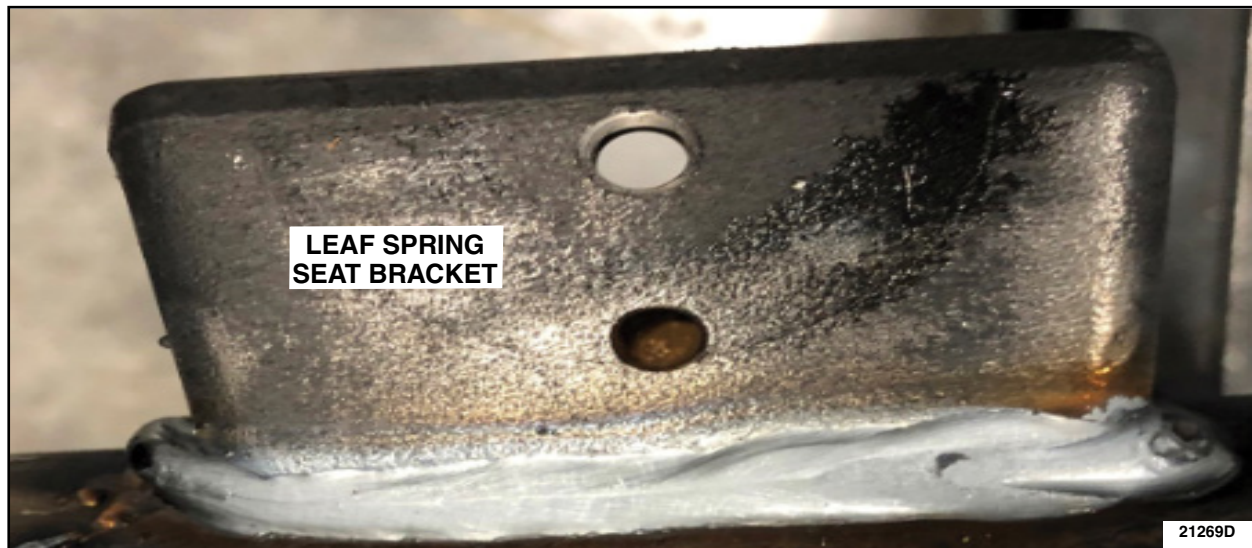

FIGURE 11
13. Apply weld to leaf spring seat bracket area. Inspect for weld coverage and spatter. See Figure 11.